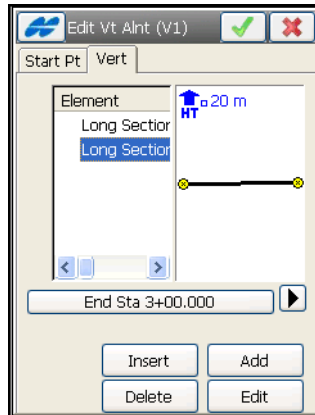

Figure 7-16. Add Vertical Alignment – Vert Tab
4. On the *Vert* tab of the **Add Vt Alnt** (<name>) screen (Figure 7-16), add the vertical alignment elements, or long sections (for the *Station & Elevation* vertical alignment type).